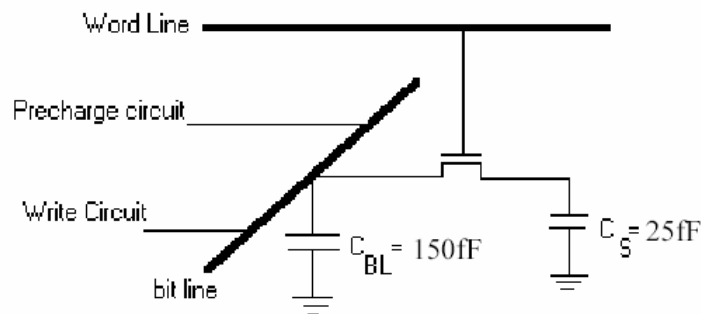

Figure 1
1. **DRAM:** A 1T1R DRAM cell is represented by the following circuit diagram (Figure 1). The bit line is pre-charged to  $V_{DD}/2$  using a pre-charge circuit when a read is expected. Also the WRITE circuit is used to bring the potential of the bit line to  $V_{DD}$  or 0V during the WRITE operation with the word line at  $V_{DD}$ . Use our default technology.